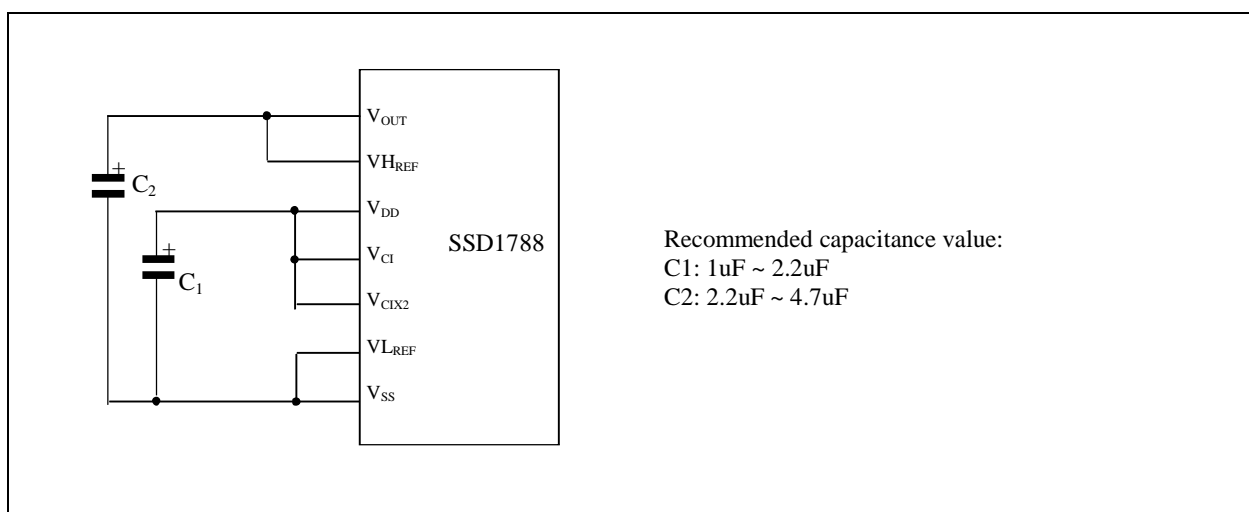

Figure 5 - SSD1788 Hardware Configurations
2. Bias Divider - If the output op-amp buffer option in Set Power Control Register command is enabled, this circuit block will divide the regulator output (V_{OUT}) to give the LCD driving levels ($V_{L2} - V_{L5}$). The divider does not require external capacitors to reduce the external hardware and pin counts, power configuration of op-amp is shown on Figure 5 on page 22.